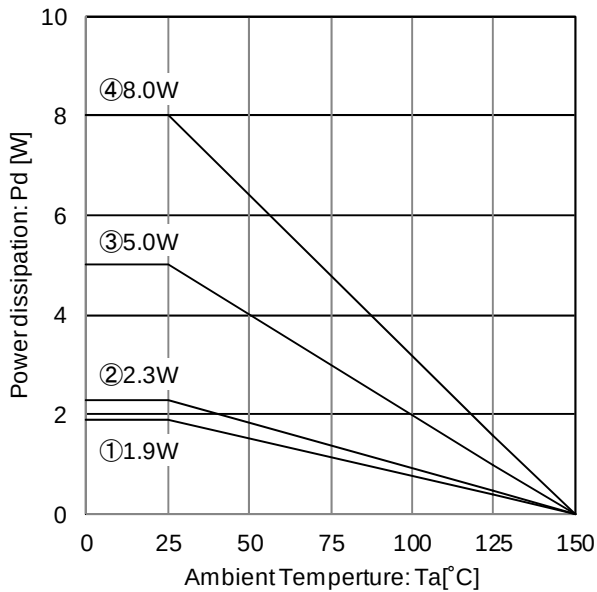

Figure 21. Package data of TO263-5F
Refer to the heat mitigation characteristics illustrated in Figure 21, 22 and the power dissipation under actual operating conditions should be taken into consideration and a sufficient margin should be allowed for in the thermal design. The amount of heat generated depends on the voltage difference across the input and output, load current, and bias current. Therefore, when actually using the chip, ensure that the generated heat does not exceed the Pd rating. Even if the ambient temperature Ta is at 25 °C, it is possible that the junction temperature Tj reaches high temperatures. Keep the whole operating temperature range within $T_j \leq T_{jmax}$.
- Calculation example : with TO263-5F package , $T_a = 105^\circ\text{C}$, $V_{CC} = 13.5\text{ V}$, $V_O = 5.0\text{ V}$, board ③ (Figure 21.)
In case of board③ in Figure 21, $T_a = 105^\circ\text{C}$
At $T_a = 105^\circ\text{C}$ with Figure 21 ③ condition, the calculation shows that 211 mA of output current is possible at 8.5 V potential difference across input and output.
- Calculation example : with T_c (bottom) = 80°C , $V_{CC} = 13.5\text{ V}$, $V_O = 5.0\text{ V}$, $I_O = 200\text{ mA}$, board ③ (Figure 21.)